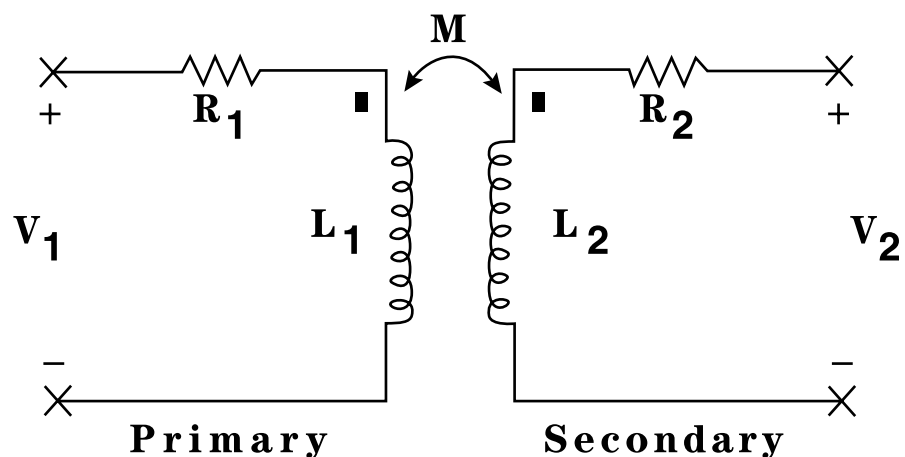

Figure 1: The Linear Transformer Model
- 2) Consider the linear transformer model shown in figure 1. Develop an experimental procedure for determining the magnitude of the self-inductance of the coils. (Note: this procedure cannot include the use of a L-C meter.)
- 3) From the linear transformer model in figure 1, it is possible to determine the mutual inductance, M , in two steps: